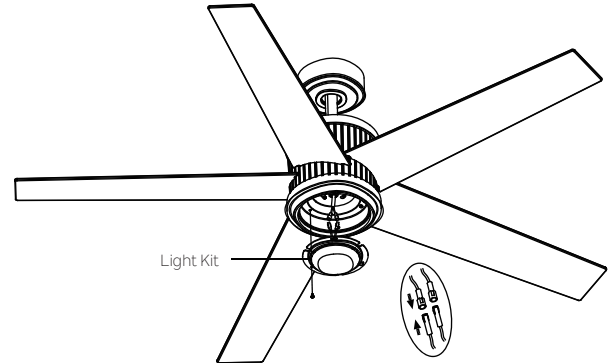

Fig. 20
Step 1. Hold the light kit close to the switch housing and connect the WHITE wires from the light kit and fan by pushing the connectors together. Follow the same procedure with the BLACK wires. (Fig. 20)
Step 2. Tuck the connections neatly into the light kit. Remove one of three screws pre-installed on the switch housing and keep for later use. Loosen the other 2 screws (do not remove). Place the two slot holes on the light kit over the 2 screws previously loosened from the switch housing. Rotate the light kit until it locks in place at the narrow end of the key holes. Secure by tightening the 2 screws previously loosened and the one previously removed. (Fig. 20)